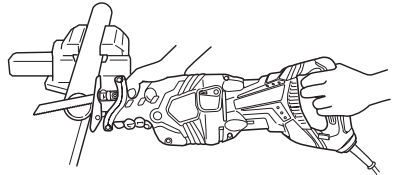

Fig. 22
- (1) Fasten a workpiece firmly before operation. (Fig.22)